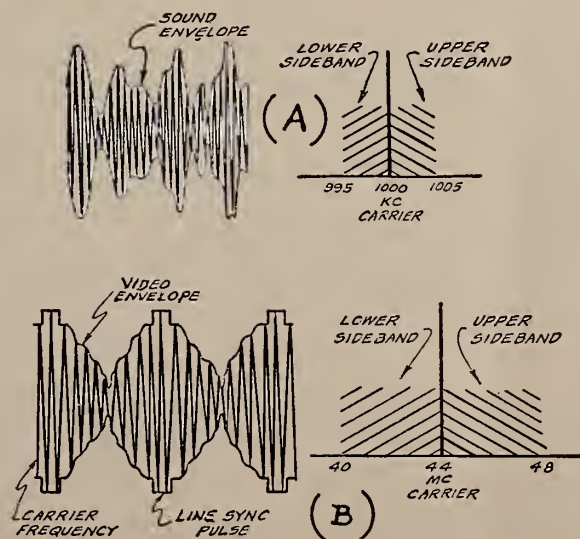

FIGURE 20
First let us review the result of amplitude-modulating a carrier with a conventional audio signal. As Fig. 20 (A) shows, if we amplitude-modulate a 1000-kc carrier with an audio signal which contains frequency components ranging up to 5 kc, then the resulting modulated wave contains, in addition to the carrier frequency, new frequencies which extend to the limits of 5 kc below the carrier frequency and 5 kc above it.
Returning to the comparison between a broadcast-band carrier amplitude modulated by a sound wave and a modulated Tv carrier, we show in Fig. 20 (B) the wave which results when a 44-mc carrier is modulated with a video signal. As in the case of the 1000-kc carrier, the process of modulation introduces two sets of sidebands, and for the example shown the two sidebands extend to 4 mc below and 4 mc above the 44-mc carrier.
It is interesting to compare the bandwidth required for the transmission of a scene by Tv with the bandwidth required in amplitude modulated (A-M) sound broadcasting. As Fig. 20 shows, an A-M